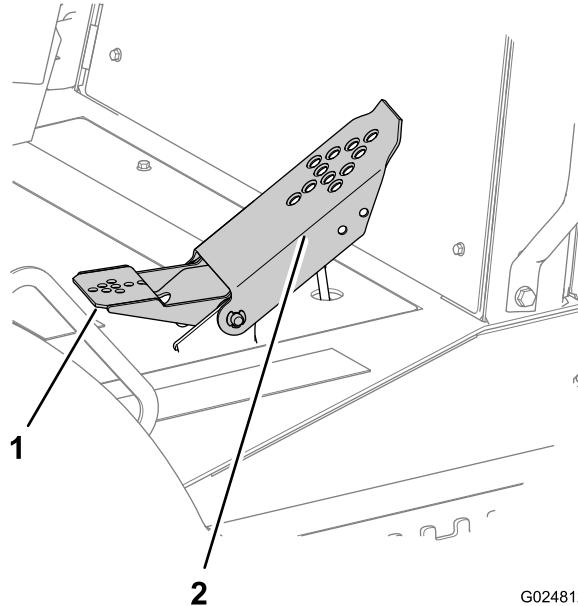

Figure 40
- Push down on the top of the pedal to move the machine forward (Figure 40).
- Push down on the bottom of the pedal to move the machine rearward (Figure 40).
- To reduce speed or to stop the machine, move the pedal up toward the Neutral position (Figure 40).